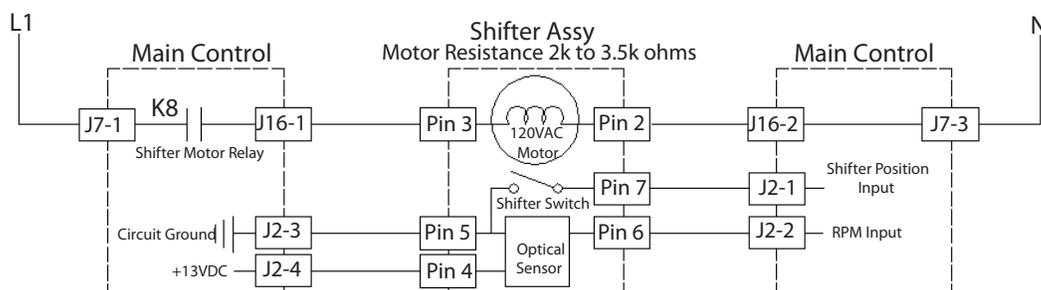

Figure 4 - Shifter Assembly Strip Circuit (Shifter Switch Open = SPIN, Closed = AGITATE)
**NOTE:** Refer to Figure 4, “Shifter Assembly Strip Circuit” for tests and measurements.